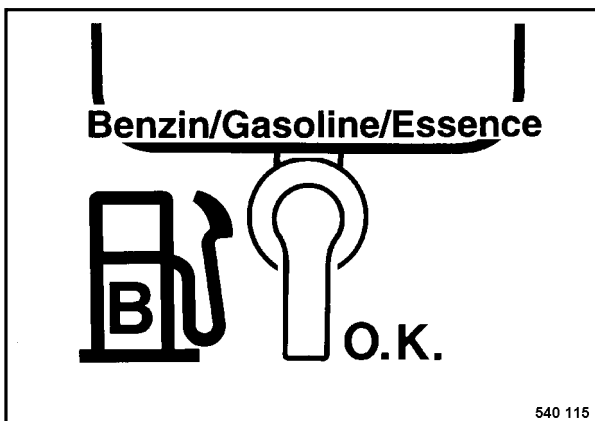

Fig. 1
- Open the fuel valve (Fig. 1).